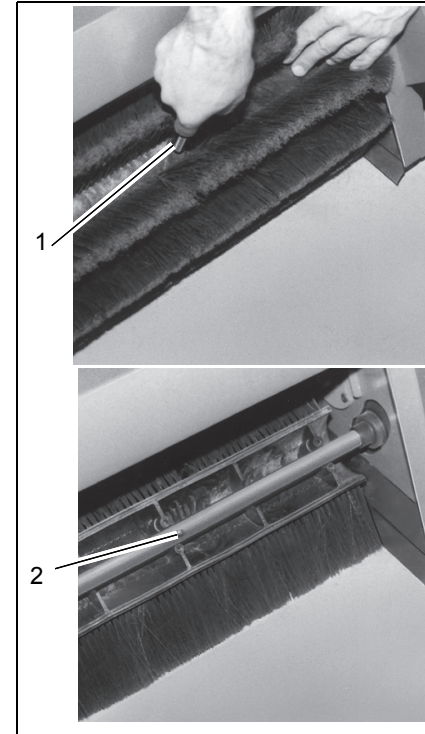

Fig. 5
3. Unscrew the three head screws on the cylindrical brush (Fig. 5/1) and remove the first half shell.